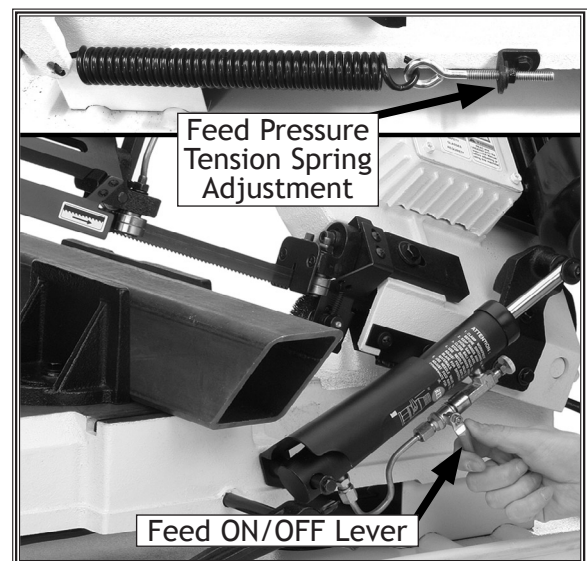

Figure 41. Bandsaw operating and starting feed before blade contacts workpiece.
2. Using a 14mm wrench, adjust the feed pressure tension spring so the spring coils are not in tension, but the spring is still held firmly in place (see **Figure 41**).
6. Slowly rotate the feed rate dial to a conservative feed rate until the saw begins to cut the workpiece (see **Figure 41**).